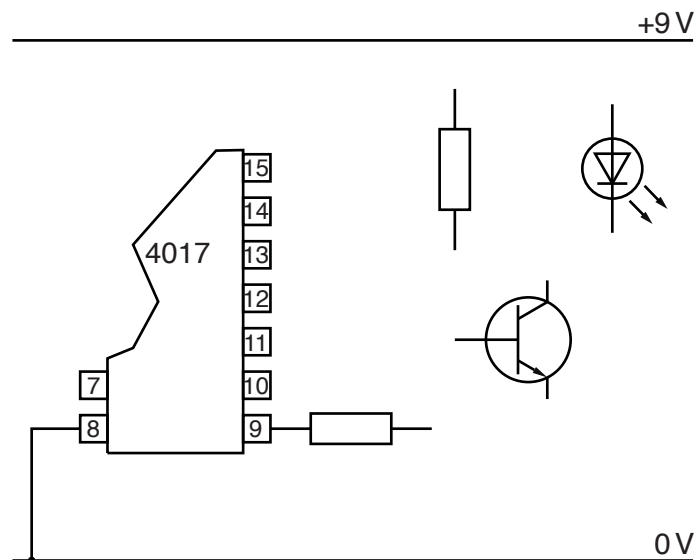

Fig. 18
- (c) Each output from the counter IC is connected through a transistor to an LED. Complete the LED and transistor driver connections on Fig. 18.